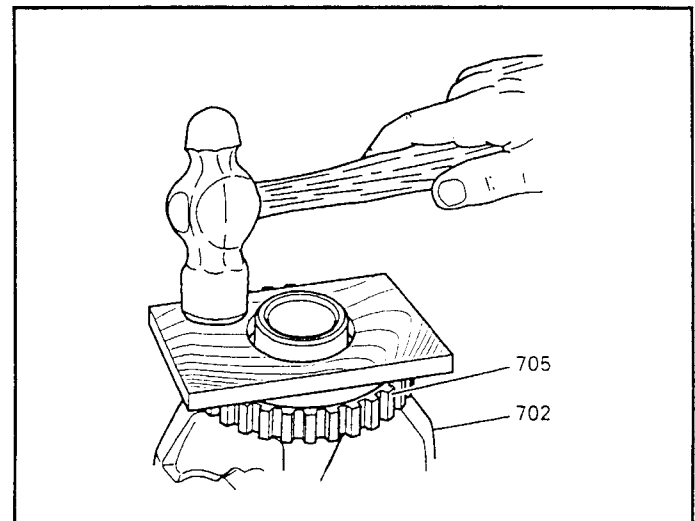

Figure 104
25. Install new speed sensor rotor using a modified wooden block and a plastic mallet, as shown in Figure 104.